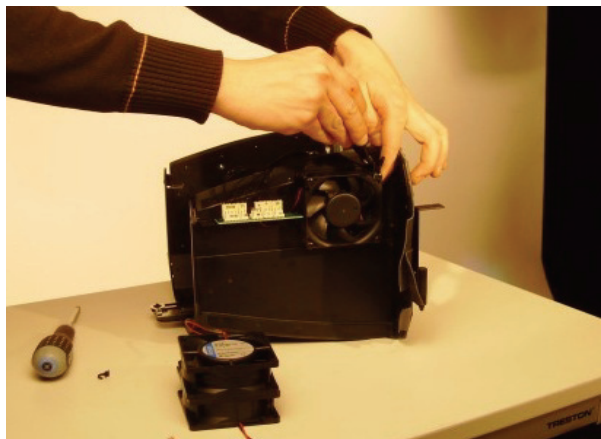

**Figure 63**
68. See Figure 63. Replace the thermostats (arrowed) in both sides of the head with the two new thermostats (P/N 05040023) supplied in the Upgrade Kit, re-using the existing screws.